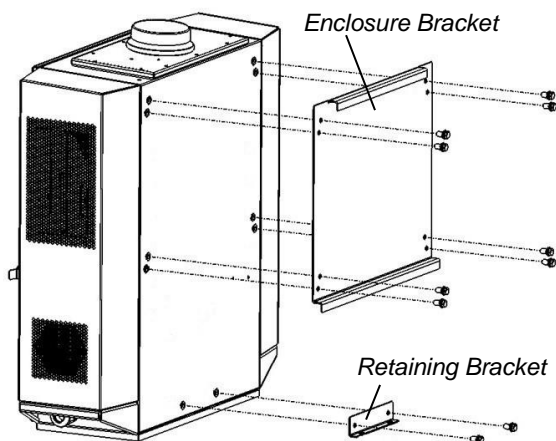

Figure 13—Attaching Encloser bracket and Retaining bracket to back of Charger
- Using hardware provided, secure Enclosure bracket and Retaining bracket on back of charger (see Figure 13).